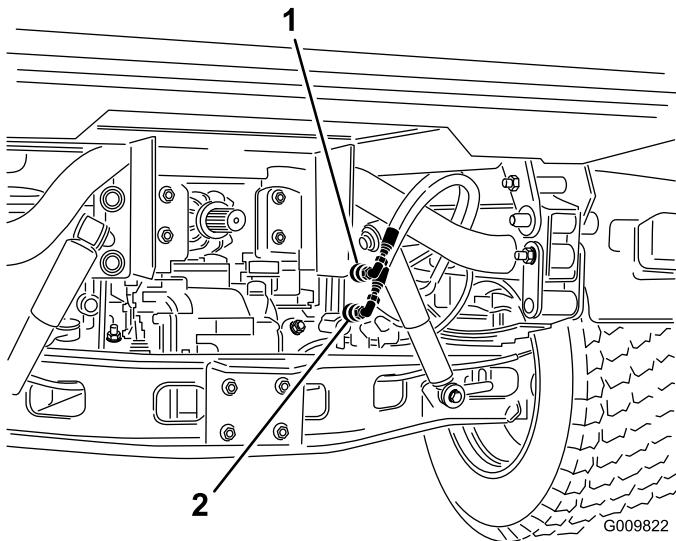

Figure 65
2. On both machines, disconnect the 2 quick coupler hoses from the hoses secured to the coupler bracket (Figure 65).